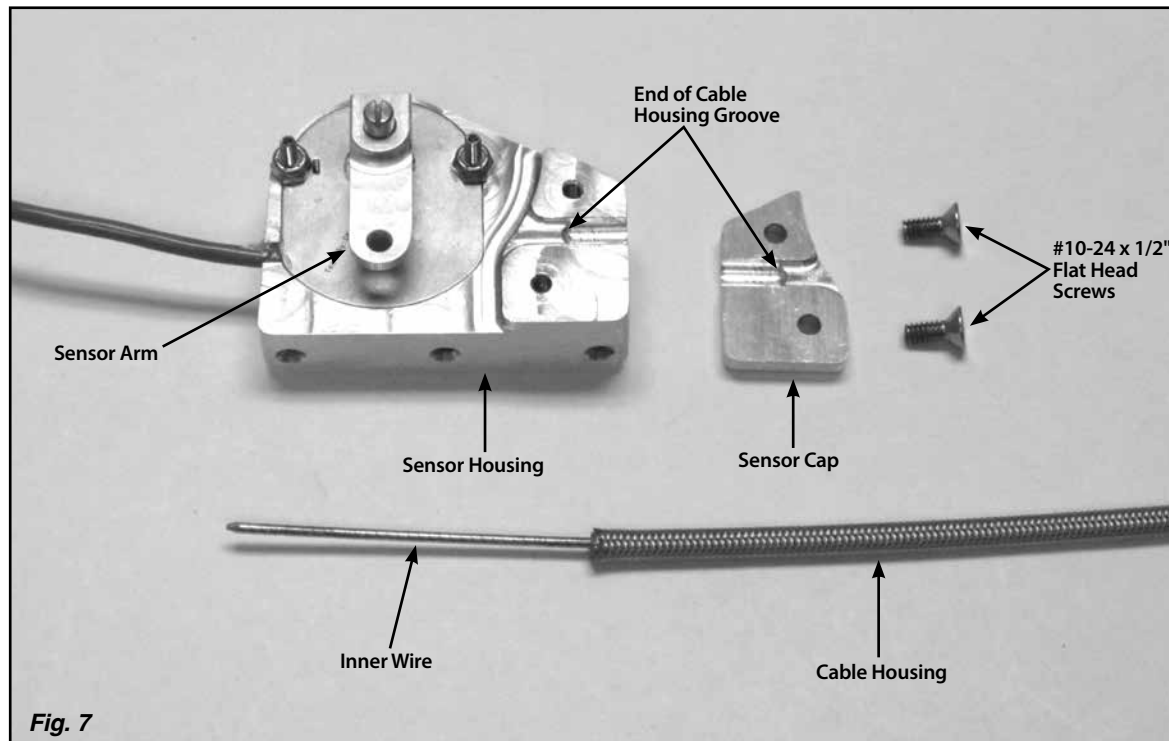
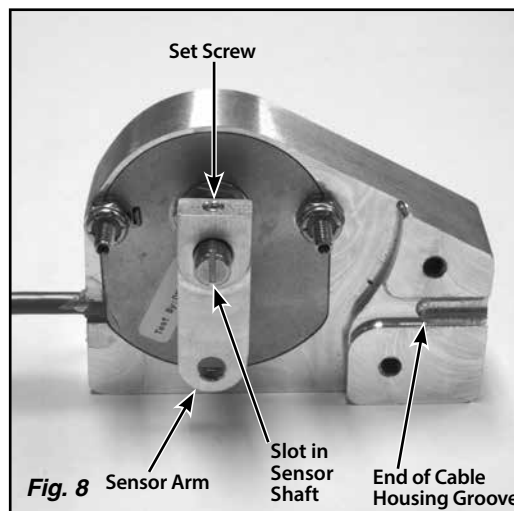

Fig. 7
Fig. 8
Step 3: Remove the sensor cap by removing the two #10-24 x 1/2" flat head screws using a 1/8" Allen wrench, and separate the cable housing from the sensor. **Fig. 7**
Step 4: Make sure the sensor arm is parallel to the slot in the sensor shaft, with the set screw in the top of the sensor arm aligned with the slot. If not, loosen the set screw in the top of the sensor arm using a 1/16" Allen wrench, and adjust the position of the sensor arm on the shaft. **Fig. 8**
There is a groove in the sensor housing that the end of the cable housing fits in to. Mark the cable housing at the end of the cable housing groove. Remove the cable housing from the adjustable cable mounting bracket. **Fig. 7** and **Fig. 8**